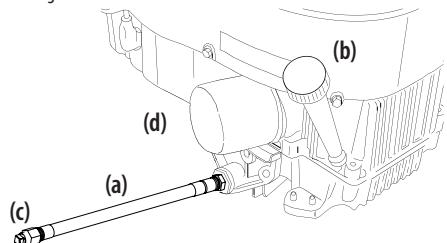

Figure 27
- Locate the oil drain hose (a) on the side of the engine. See Figure 27.
- Place an appropriate oil collection container with at least a 2.5 quart (2.37 liter) capacity below the opening of the oil drain hose, to collect the used oil. Remove the oil fill cap/ dipstick (b) from the oil fill tube. See Figure 27.
- While holding the free end of the oil drain hose over the oil collection container, unscrew the square head hose plug (c) from the end of the oil drain hose. See Figure 27. Drain the engine oil into the collection container.
- Remove the oil filter (d) and drain into the collection container. See Figure 27.
- Replace the oil filter (d) and refill the engine with new oil as instructed in the Engine Operator's Manual. See Figure 27.